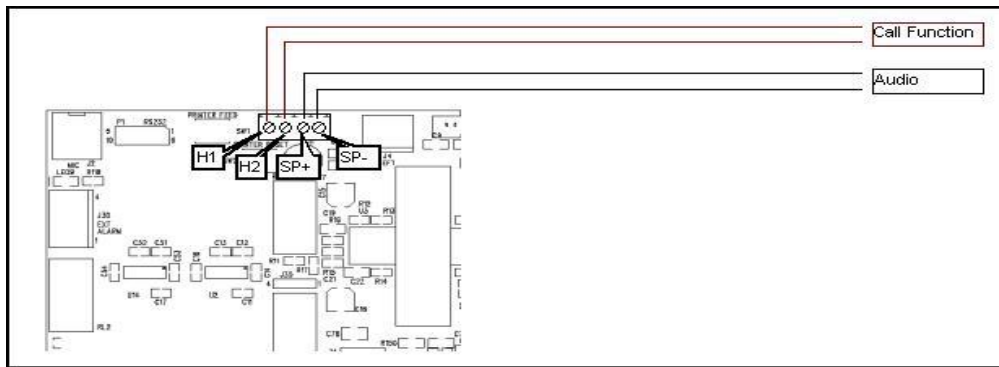

Figure 23. Four-Wire Intercom Configuration
8. Secure the Line (Black), Neutral (White) and Ground (Green) wires to the appropriate terminal screws. (See Figure 23). Re-tighten the screws to hold the wires in place.